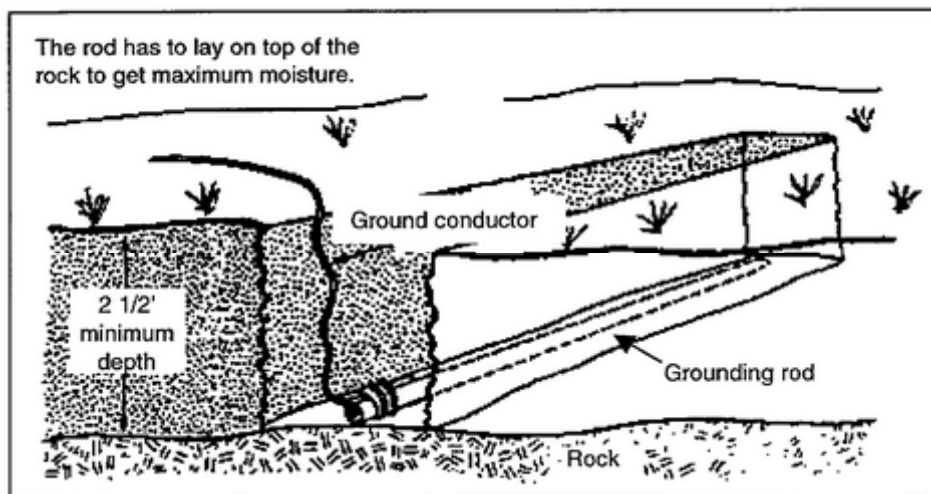

Figure 1-9. Grounding rod buried on top of rock
b. A grounding rod can also be buried on top of rock in a trench that is 2 1/2 feet deep and 8 feet long (Figures 1-9 and 1-10).